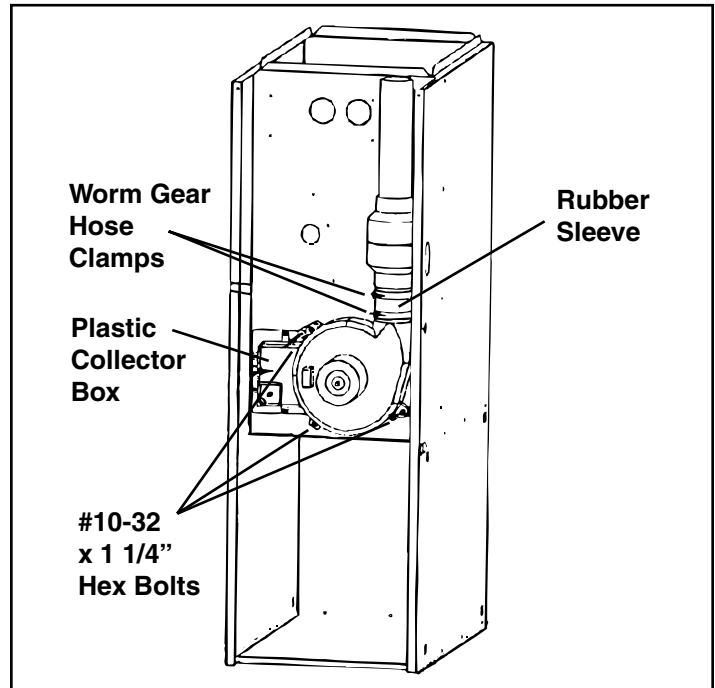

Figure 1.
1. Loosen the two hose clamps on the rubber sleeve connecting the inducer to the vent pipe (See Figure 1).